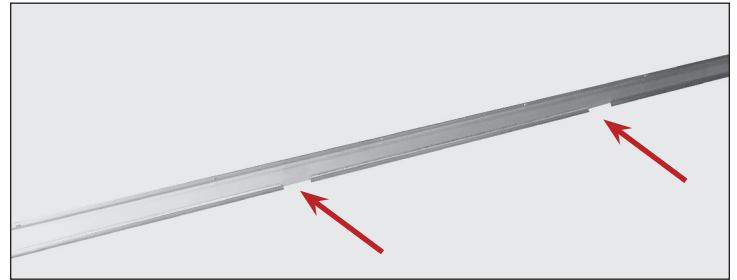

Fig. 1. Door channel openings (two-door appliances ONLY).
2. After centering, lift the door and tilt the top of the door back until the rollers are out of the top channel. Then, swing the bottom of the door out of the bottom channel. See fig. 1.